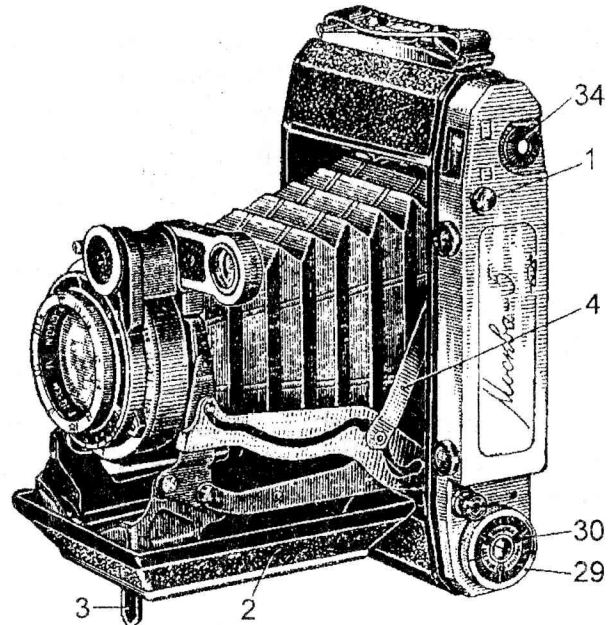

Fig. 2. Moskva-5 camera
**For M-5:** Translating of frame size provided by knob 34 with index, near the knob are placed 2 rectangles referring to the frame sizes of 6x6 and 6x9 *cm.* (see fig. 2). For changing the viewfinder from one frame size to the other, it is necessary to press on the head 34 and to turn it against the stop to the other frame size.